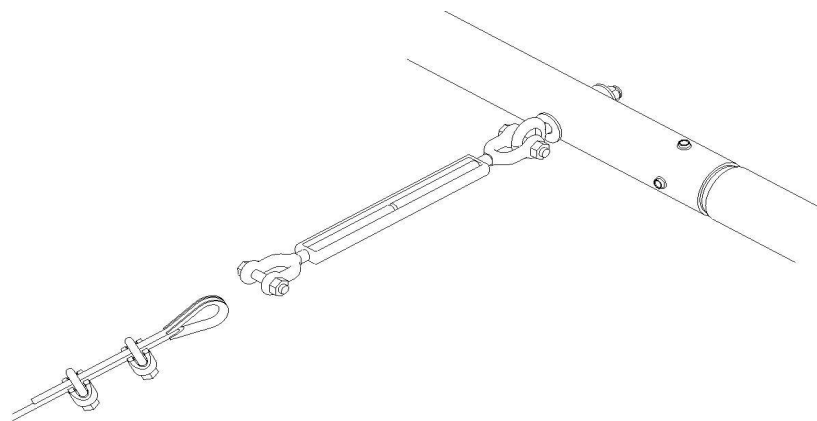

FIGURE: 6
- 5) Extend the turnbuckles and attach one turnbuckle to each cable end, as shown in Figure 6.